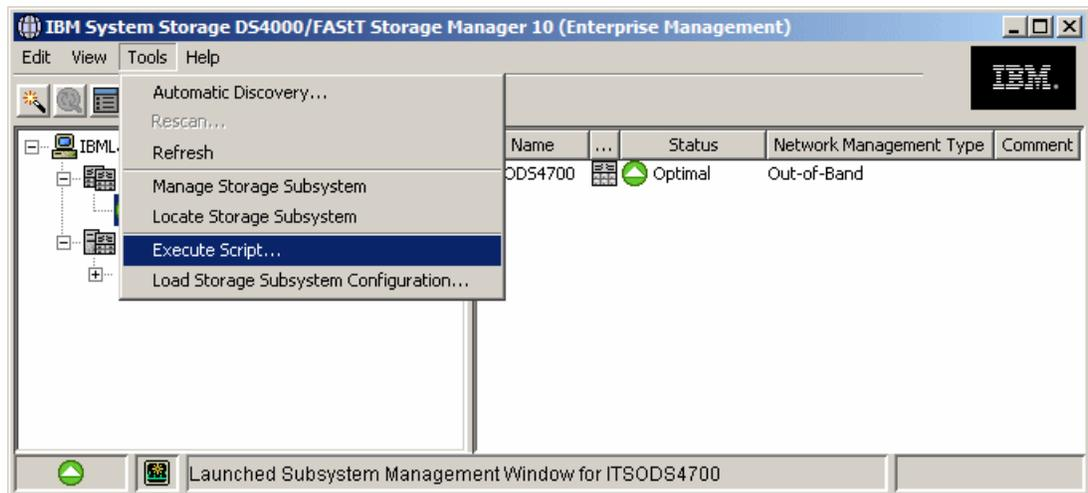

Figure 4-24 Starting the Script Editor
2. Click **Tools** → **Execute Script**, as shown in Figure 4-24, or right-click and select **Execute Script**.